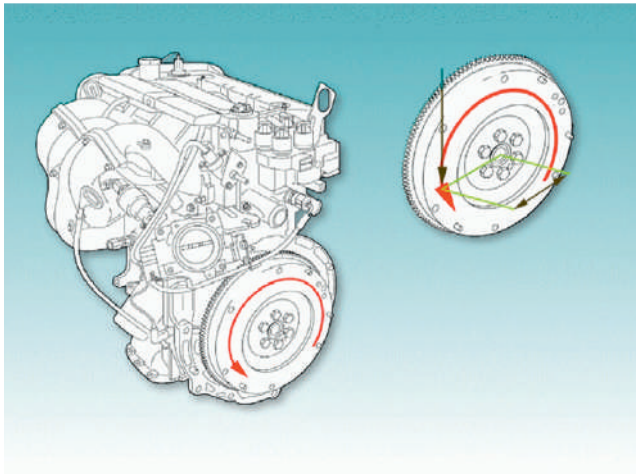

Figure 2.33 Torque and power measured at the flywheel
Two common terms used when expressing engine performance characteristics are ‘torque’ and ‘power’. Torque is an expression relating to work and is a measure of the turning force provided by the engine. Torque output can vary independently of engine speed and is a measure of the load on the engine. The SI units of torque are newton metres (Nm) and the imperial units are pounds/foot (lb/ft). Power is a derived unit and relates to the rate of work done, or the work done per unit of time. For an engine, the power is a product of torque and speed. Power output is given in kilowatts (kW) or horsepower (HP). Engine power is normally stated as measured at the flywheel, via a dynamometer or brake, hence the term ‘brake horsepower’ (Fig. 2.33).